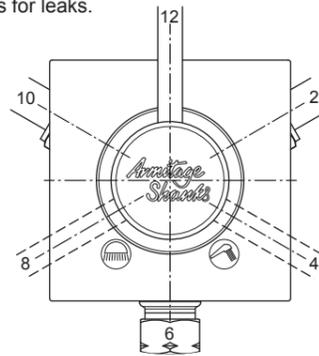

Fig 6a
- The cartridge provides six click-in positions (each 60° apart & rotates full 360°). See clock face fig 6a.